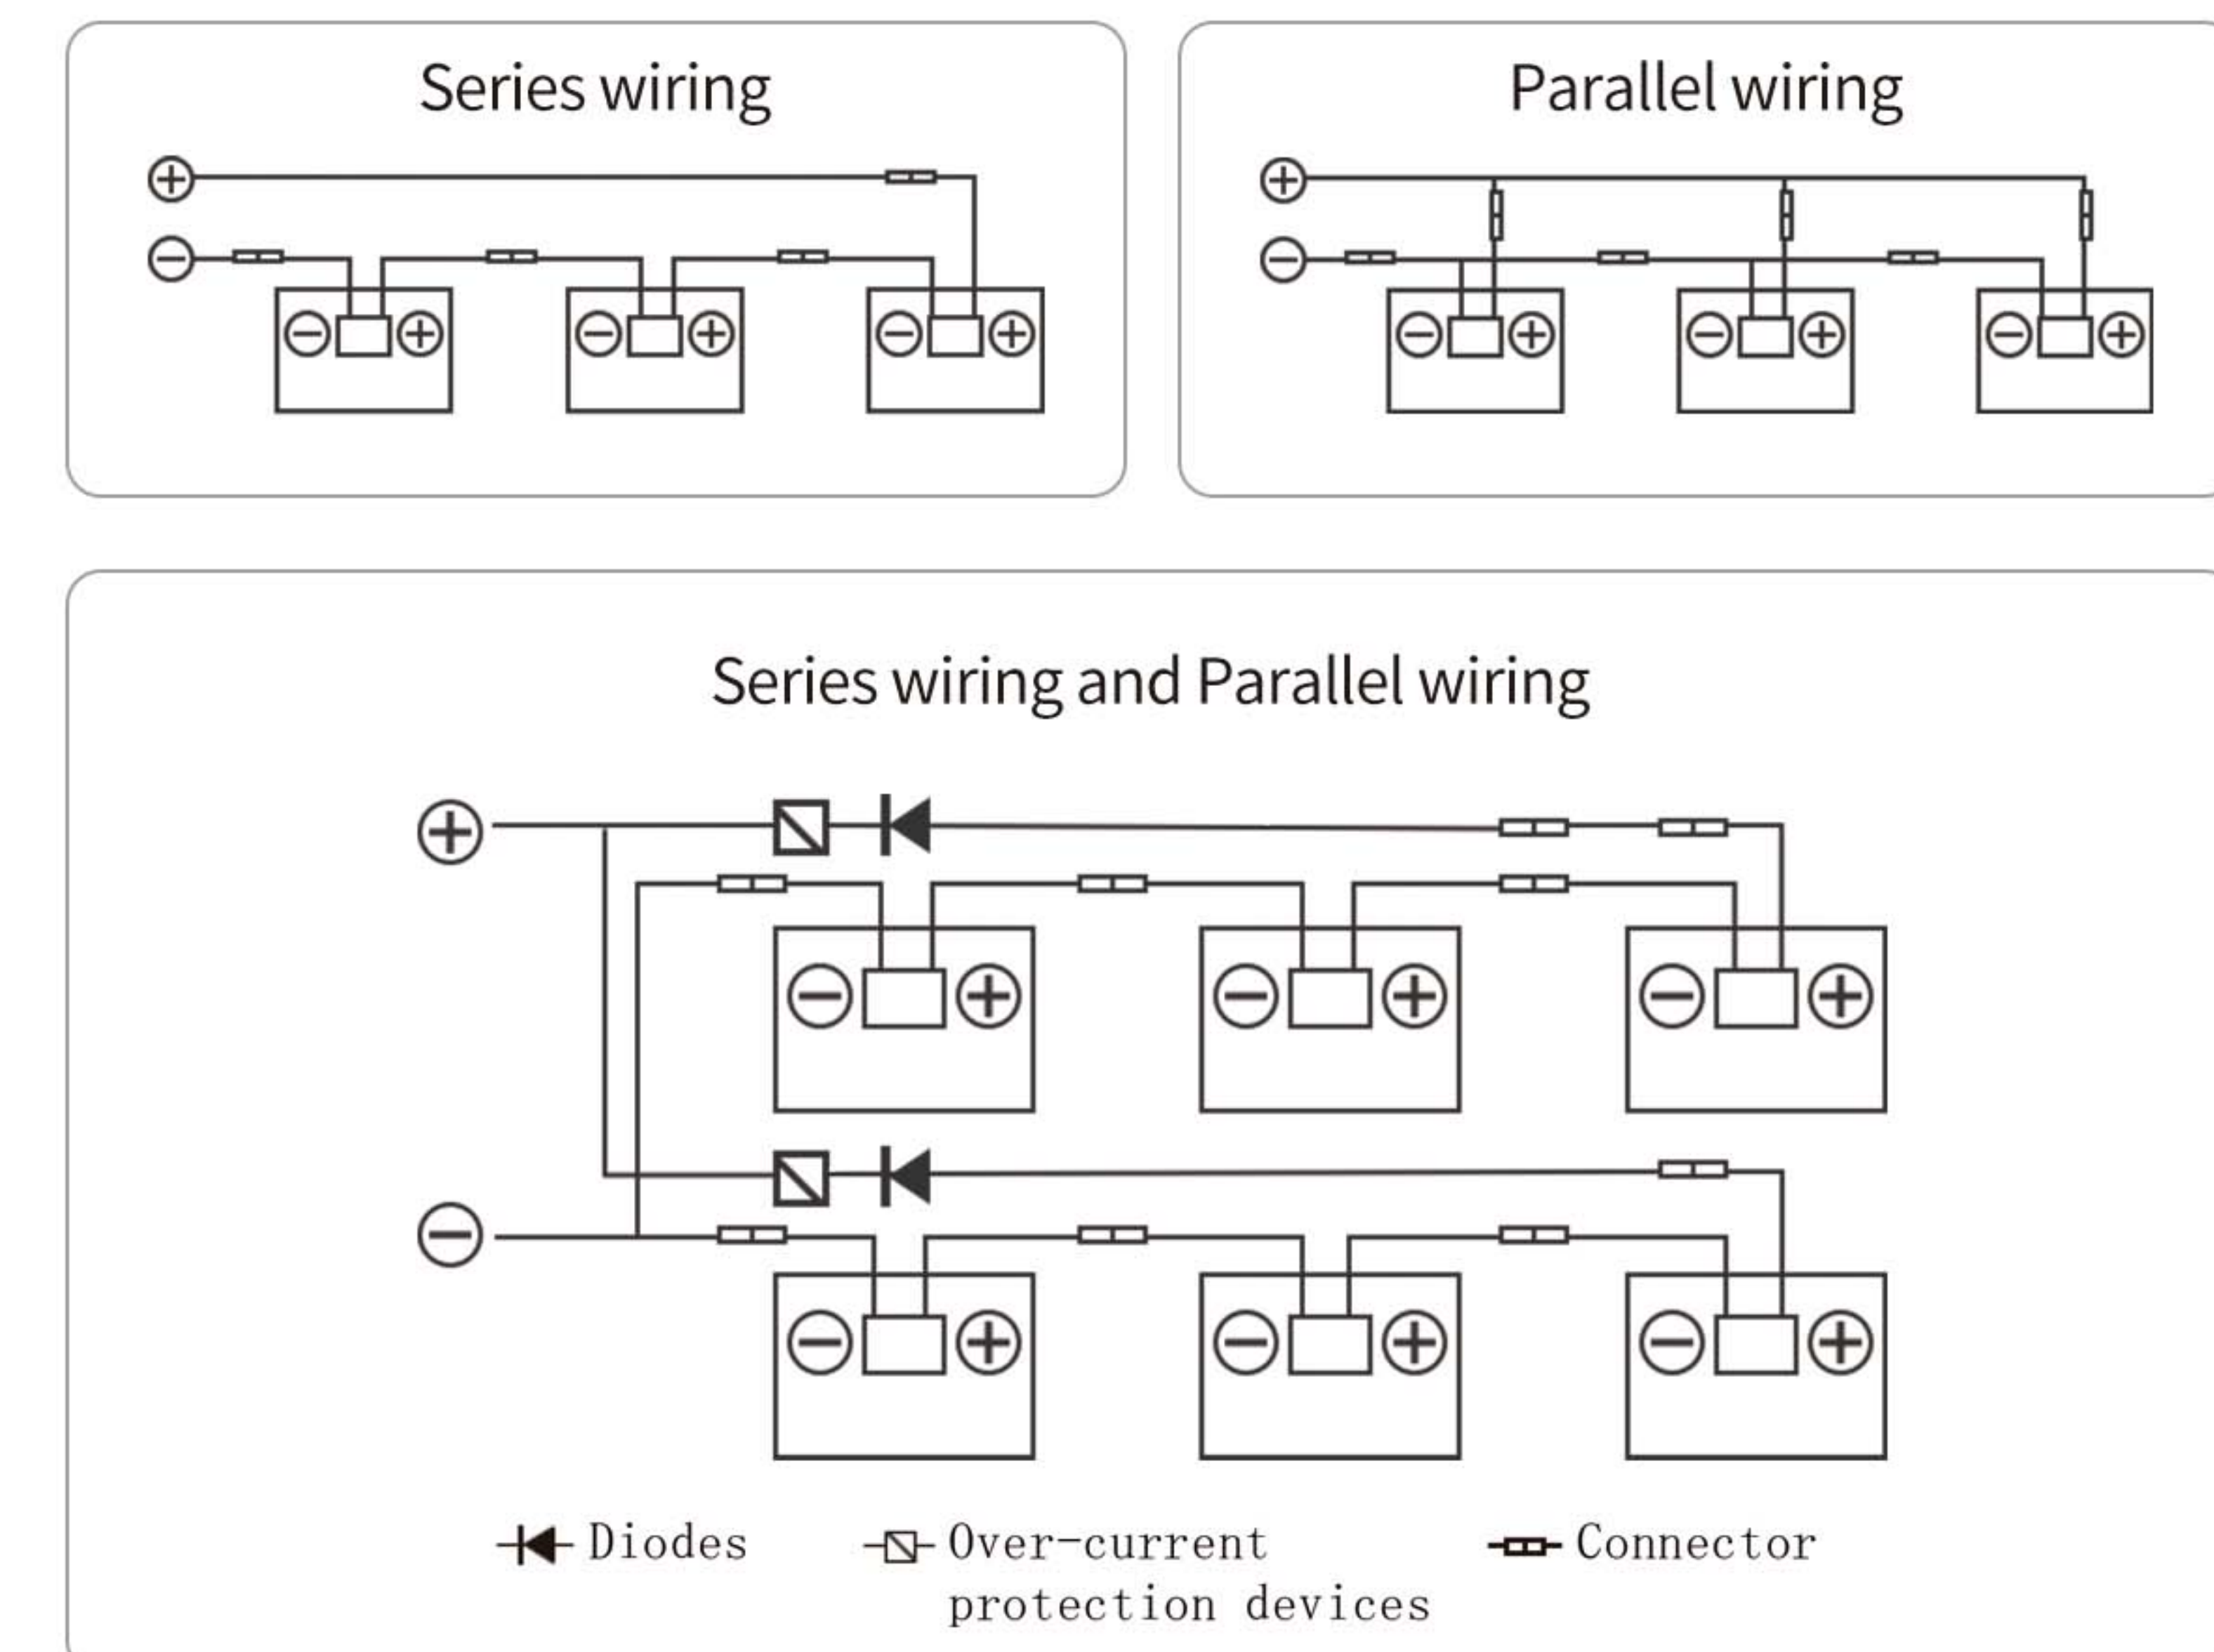

Figure 3
4.10 Voltages are additive when modules are connected directly in series, and modules currents are additive when modules are connected in parallel, as illustrated in Figure 3. Modules with different electrical characteristics must not be connected directly in series.